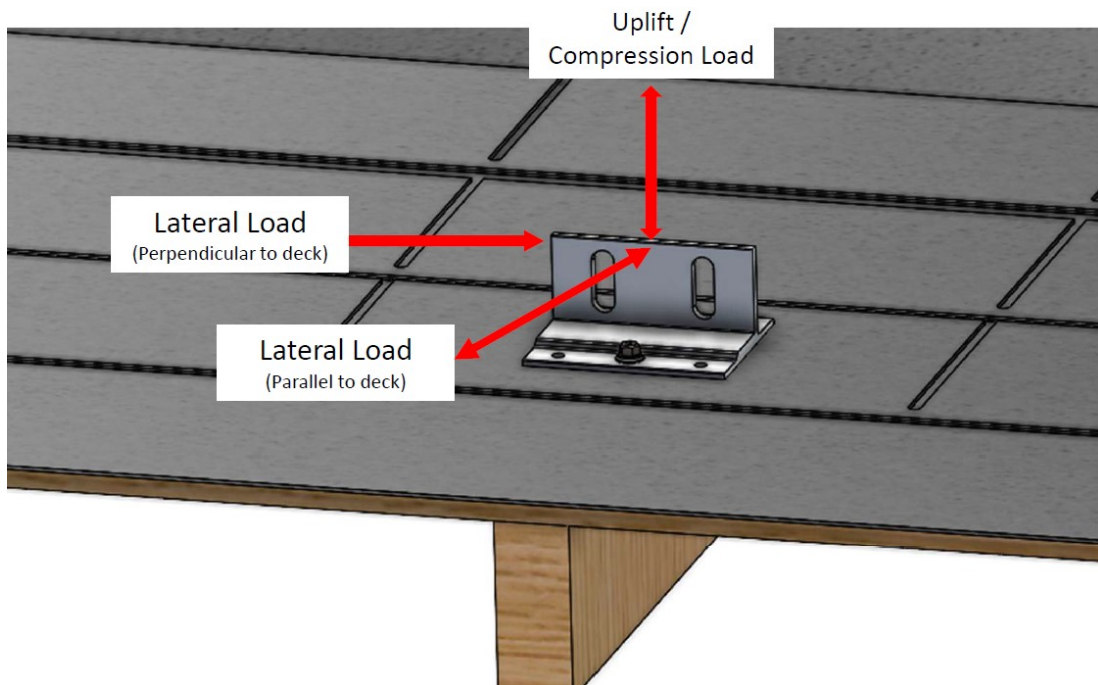

Figure 1.2: Splice Foot X: Force Loading Diagram (rafter)
3. Figure 1.2: Splice Foot X – Force loading diagram (rafter)
<p>1. Determined using NDS Eq. 12.2-2 with 1.75" minimum thread length</p> <p>2. Allowable lateral load assumes worst case loading at top of slots, with allowable shear values based on Table 12M (NDS) with appropriate reduction factors</p> <p>3. Allowable uplift load includes a 1.6 load duration factor for wind. Allowable shear load includes a 1.15 load duration factor for snow. No additional increases are permitted.</p> <p>4. The effect of bolt slippage has not been evaluated</p> <p>5. Assumes a minimum specific gravity G=0.43</p> <p>6. Reference Figure 1.2 for load direction and application</p>